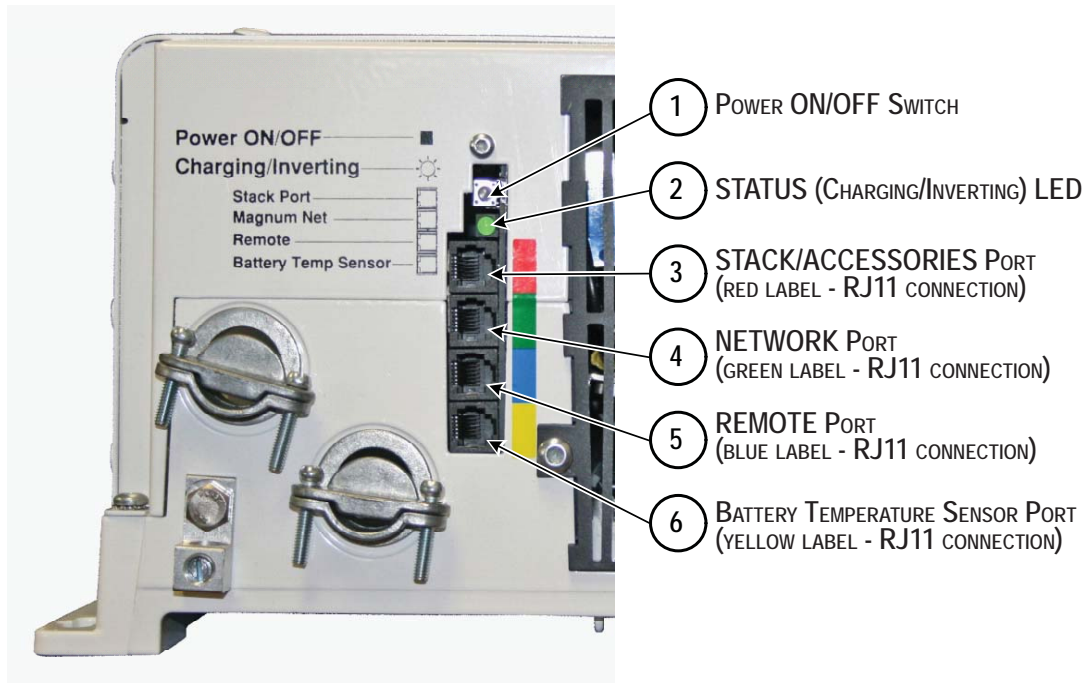

Figure 1-1, Power Switch, Status LED and Accessory Connection Ports
The front of the MS Series is equipped with the following features (refer to figures 1-1 and 1-2):
**Info:** If the inverter is installed in an area where moisture may occur, we recommend putting silicone dielectric grease compound into the electrical ports (items 3 to 6 as shown in figure 1-1). Before installing the cables or if leaving any ports open, squirt a liberal amount into each port. Silicone dielectric compound makes an effective moisture and corrosive barrier to help protect and prevent corrosion to the RJ11 connections.